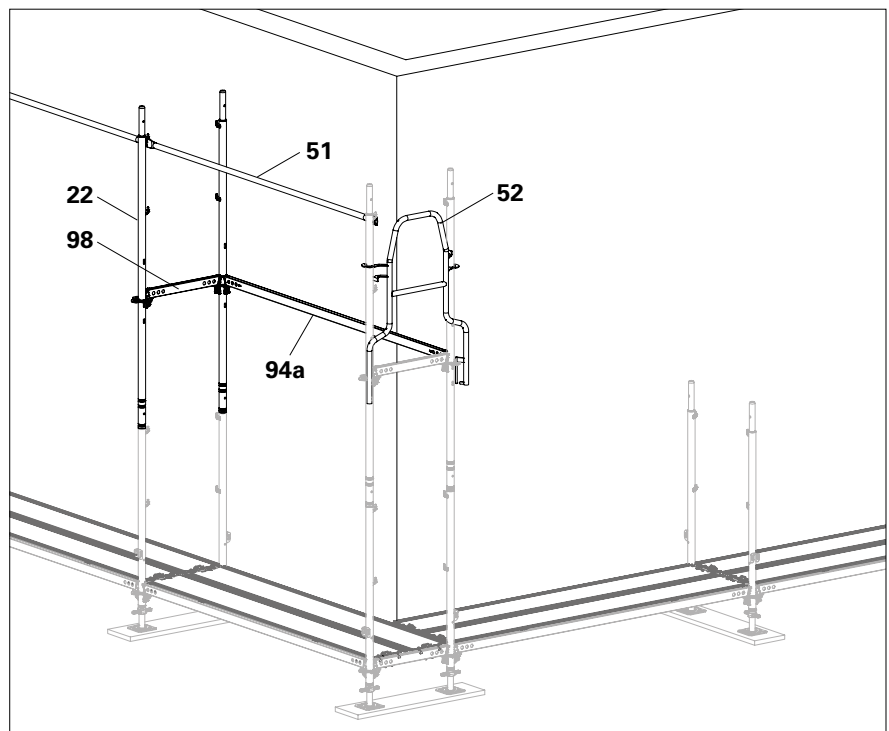

Fig. B6.02
7. Insert the Easy Standards EVM (22) with Guardrail EPG (51) into the next frame column. Fit Horizontal Ledger UH-2 67 (98).
8. Fit End Guardrail in Advance UPA 67 (52).
9. Fit Horizontal Ledger UH-2 (94a) onto the inner side of the continuous scaffold bay. Secure the wedges. (Fig. B6.02)